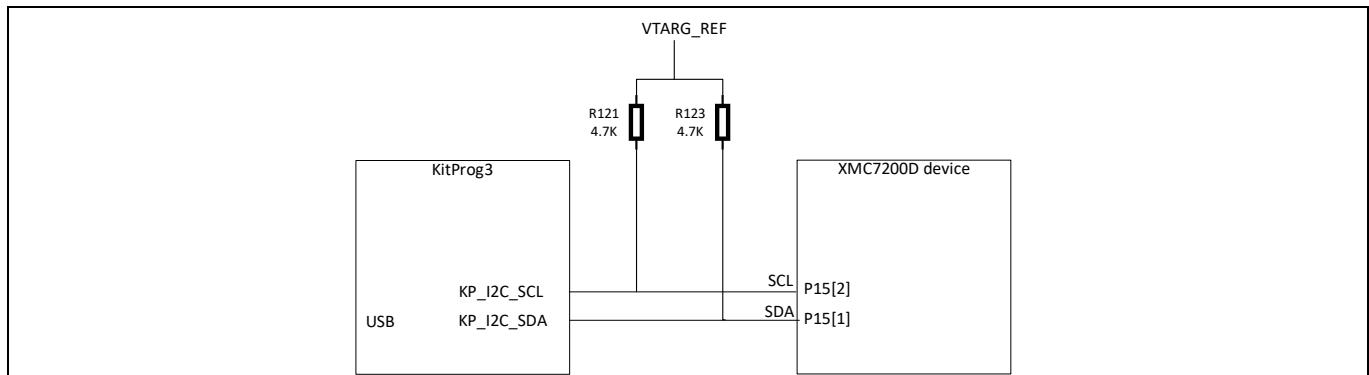

**Figure 16**    **UART connection between KitProg3 and AIROC™ Wi-Fi & Bluetooth® combo-based M.2 module**
**Figure 16** shows the secondary UART connection between the AIROC™ Wi-Fi & Bluetooth® combo-based M.2 module and KitProg3. These wires are not connected on the board by default. See section 4.2.5 Serial interconnection between PSoC™ 5LP and M.2 interface to see how to re-work the board to connect KitProg3 USB-UART bridge with AIROC™ Wi-Fi & Bluetooth® combo-based M.2 module.